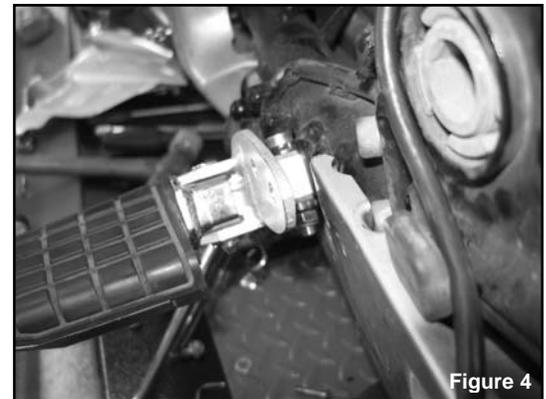
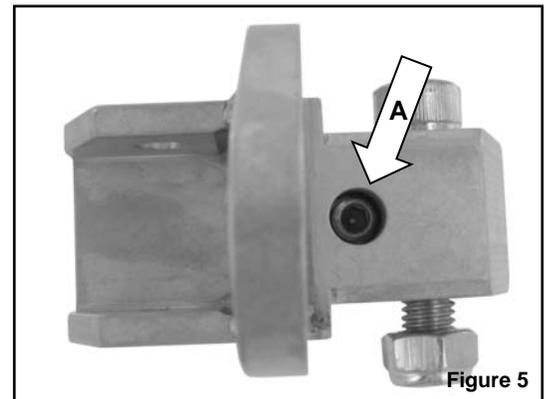

Figure 4
Figure 5
Remove the left side foot peg by removing the cotter pin, washer and retaining pin. Install the Pingel foot peg extension bracket by inserting it into the opening where the stock foot peg was located. Install the supplied 8mm x 45mm socket head cap screw through the bracket and loosely install the 8mm locknut, do not tighten, see figure 4. Remove the 1/4-20 x 1/2" set screw, (A) figure 5, and apply thread locker, then reinsert and tighten it. The 8mm bolt and locknut can now be securely tightened. Reinstall the stock foot peg into the Pingel foot peg extension using the original retaining pin, washer and cotter pin. Install the Pingel shift cylinder support bracket onto the Pingel footpeg extension bracket using the supplied 5/16-24 x 7/8" socket head cap screws with locknuts and tighten, see (A) figure 6.